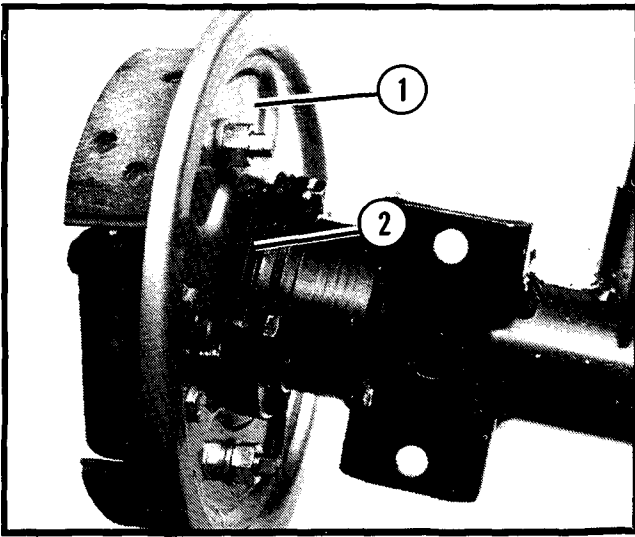

Figure 2.
2. Disconnect brake return spring. Remove seal retainers and brake backing plates. Keep shims in their respective positions for reassembly, noting which side of the differential they go on. See Figure 2.